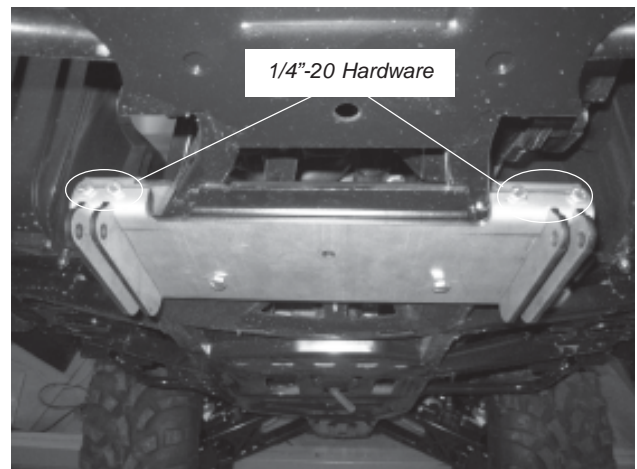

Figure 6
6. Assemble clamp bracket (A2) to plow mounting bracket (A1) using four 1/4-20x1" hex head bolts (B1), four 1/4" flat washers (B2) and four 1/4-20 lock nuts (B3). Torque to specifications on page three. See Figure 6.